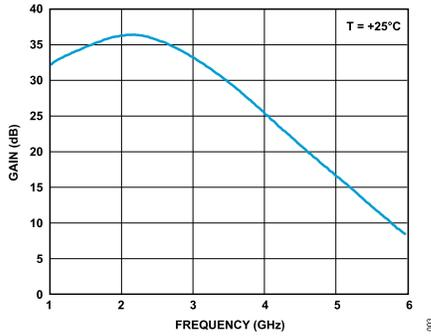
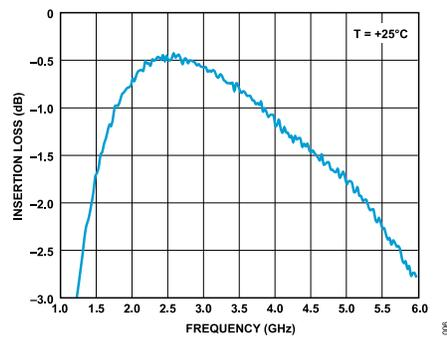

Figure 4. Receive Operation, High Gain
Figure 7. Transmit Operation, Antenna to Termination Insertion Loss
6. The ADRF5519-EVALZ is expected to have a high and low receive gain of 35 dB and 14 dB, respectively, at 2.6 GHz. See the expected results in Figure 4 to Figure 7.